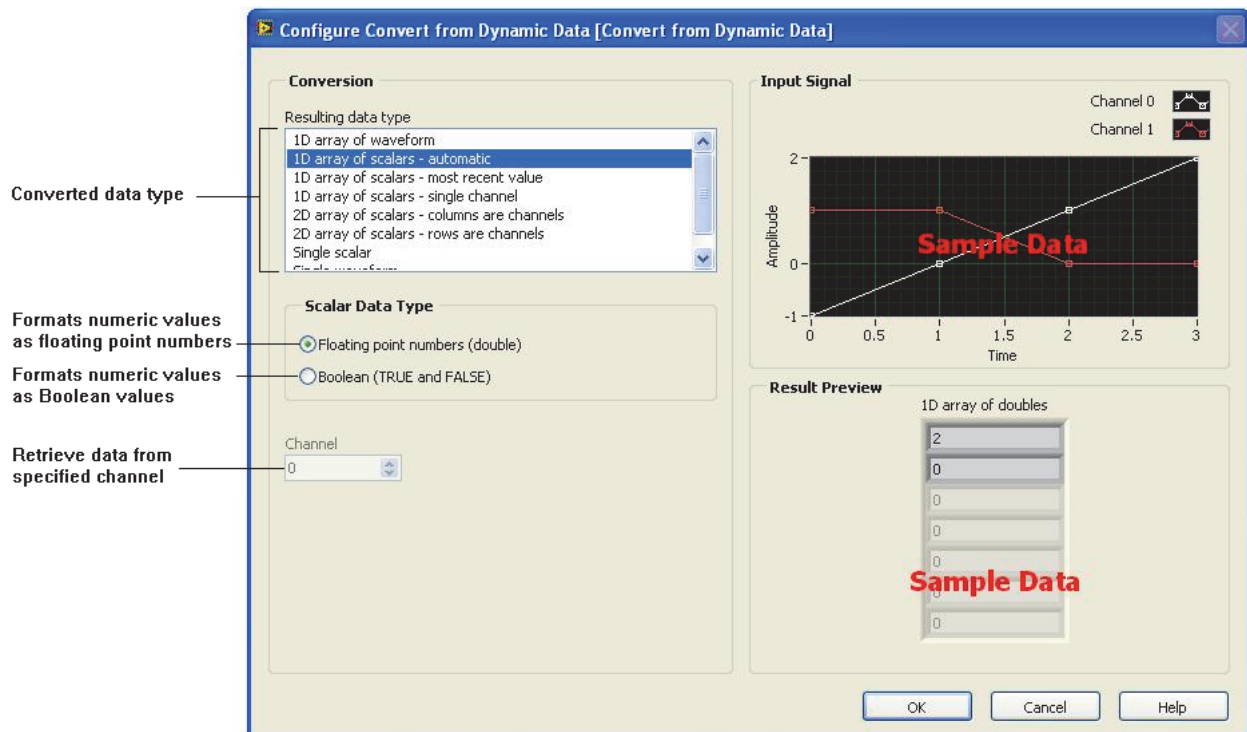

Figure 1.4.16 Convert from Dynamic Data Express VI
When the Express VI is placed in the block diagram, a configuration window appears with conversion options as shown in Fig. 1.4.16. You may retrieve this window to make changes at a later time by double-clicking on the Express VI. The conversion will depend on the type of inputted data. For example, if the DAQ Assistant has been configured to take one sample (on demand) from one channel, then "Single scalar" would be selected as the converted data type. You may also retrieve data from a specified channel with some of the available options. "Scalar Data Type" options format values of dynamic data to either floating point numbers or Boolean values.
32. Configure the Convert from Dynamic Data Express VI as follows. Keep the default option “1-D array of scalars-automatic” as the resulting data type in the conversion. Keep the default option “Floating point numbers (double)” since the data samples are numerical values. Your configuration window should appear as shown in Fig. 1.4.16.